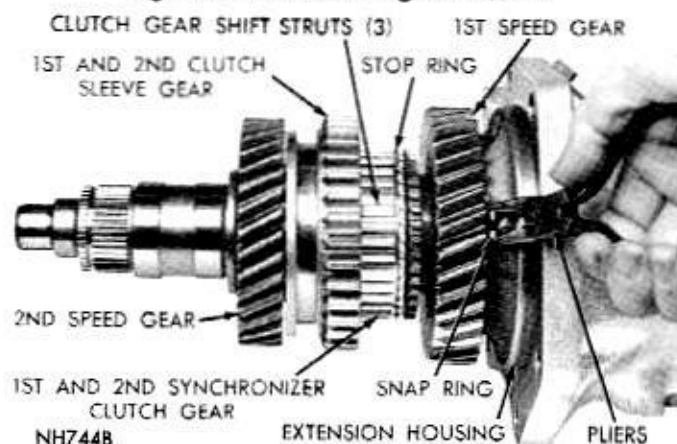

Fig. 20—Removing or Installing Mainshaft Bearing Snap Ring—Front
(7) Using long nose pliers, compress snap ring that retains mainshaft ball bearing in extension housing (Fig. 20).